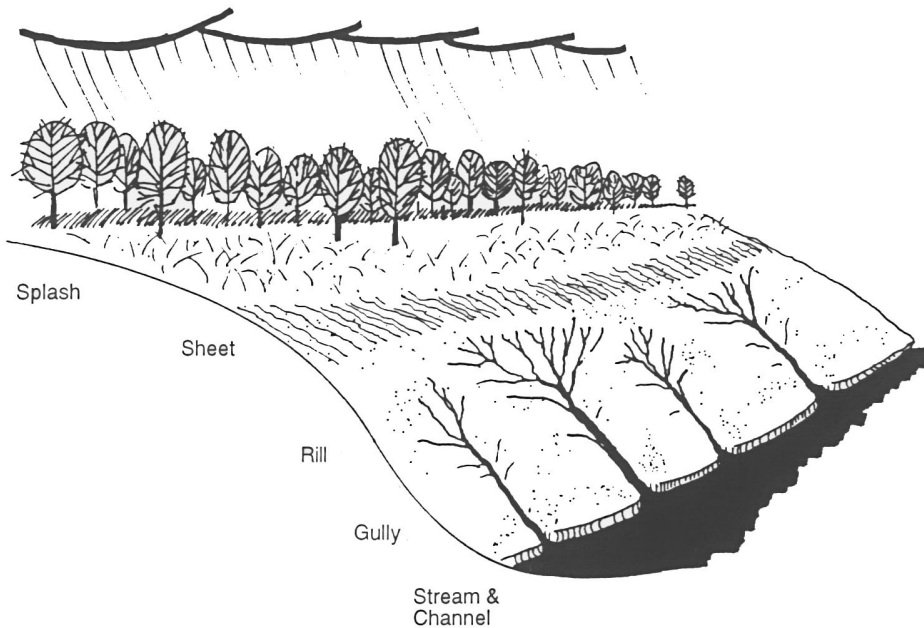

Figure 2.1 The Five Types of Soil Erosion on an Exposed Slope
- Types of Erosion** Erosion is a natural process which loosens and removes the soil. On a construction site, the erosion process is accelerated because the soil is left bare and unprotected by vegetation. There are five types of erosion (shown in Figure 2.1) described below and ranked from least severe to most severe. Splash and sheet erosion can best be prevented by protecting the land surface with vegetation, mulch or erosion control blankets. Sheet, rill and gully erosion can be controlled by keeping runoff velocities slow.